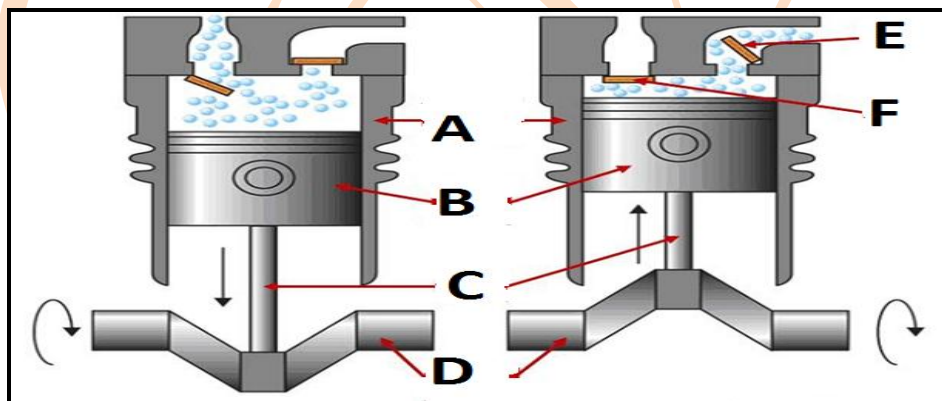

FIGURE 3
- 2.2 FIGURE 3 below shows a type of compressor used in the refrigeration industry.
- 2.2.1 Identify the type of compressor shown in FIGURE 3 above. (1)